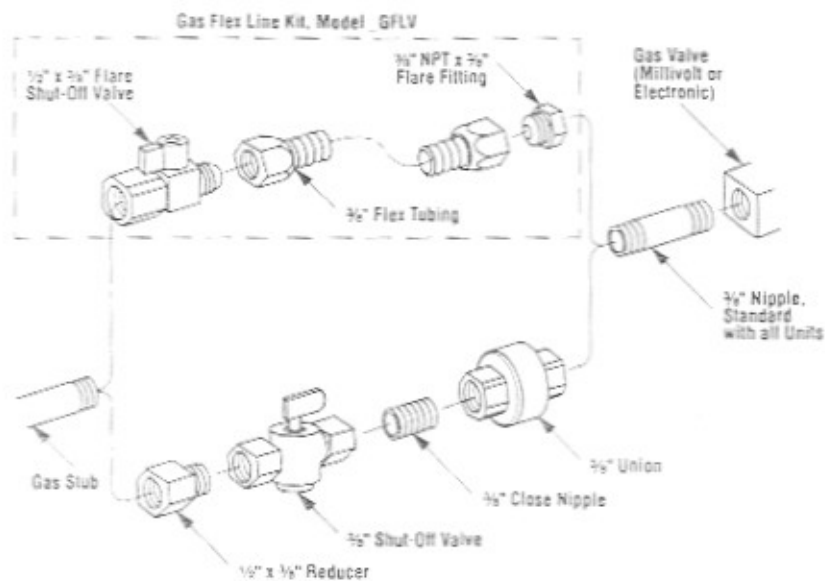

Figure 27
**Step 9. Connecting Gas Line** – Make gas line connections. All codes require a shut-off valve mounted in the supply line. *Figure 27* illustrates two methods for connecting the gas supply. The flex-line method is acceptable in the U.S.; however, Canadian requirements vary depending on locality. Installation must be in compliance with local codes.